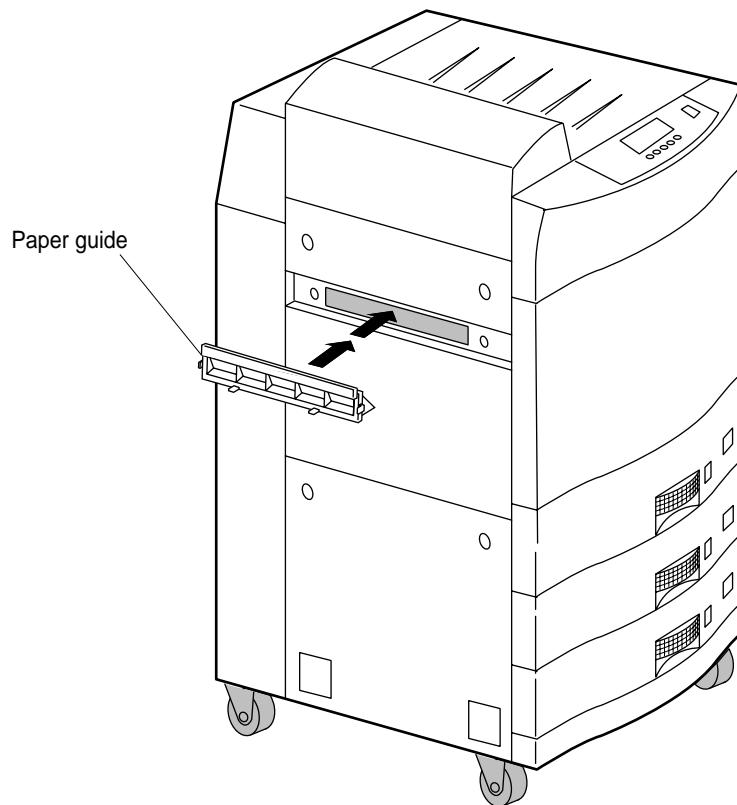

Figure 4-24 Attaching Paper Guide
3. Snap the paper guide into place, as shown in Figure 4-24.